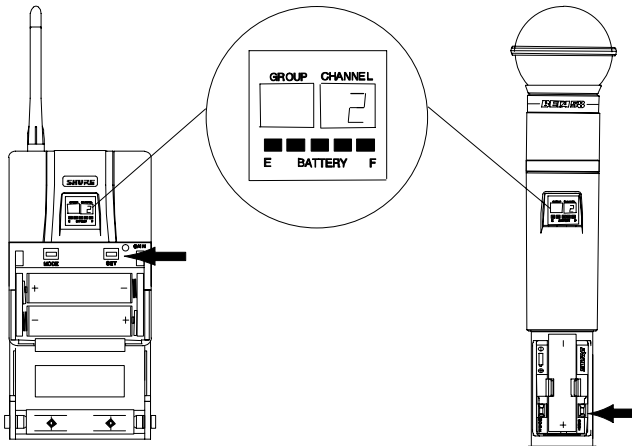

FIGURE 41
- Press the SET button to change the Channel setting, as shown in Figure 41.